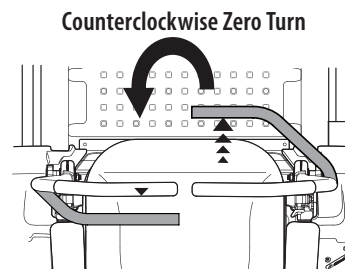

Figure 33
3. To turn counterclockwise, move the right control lever forward while simultaneously moving the left control lever rearward (Figure 33).